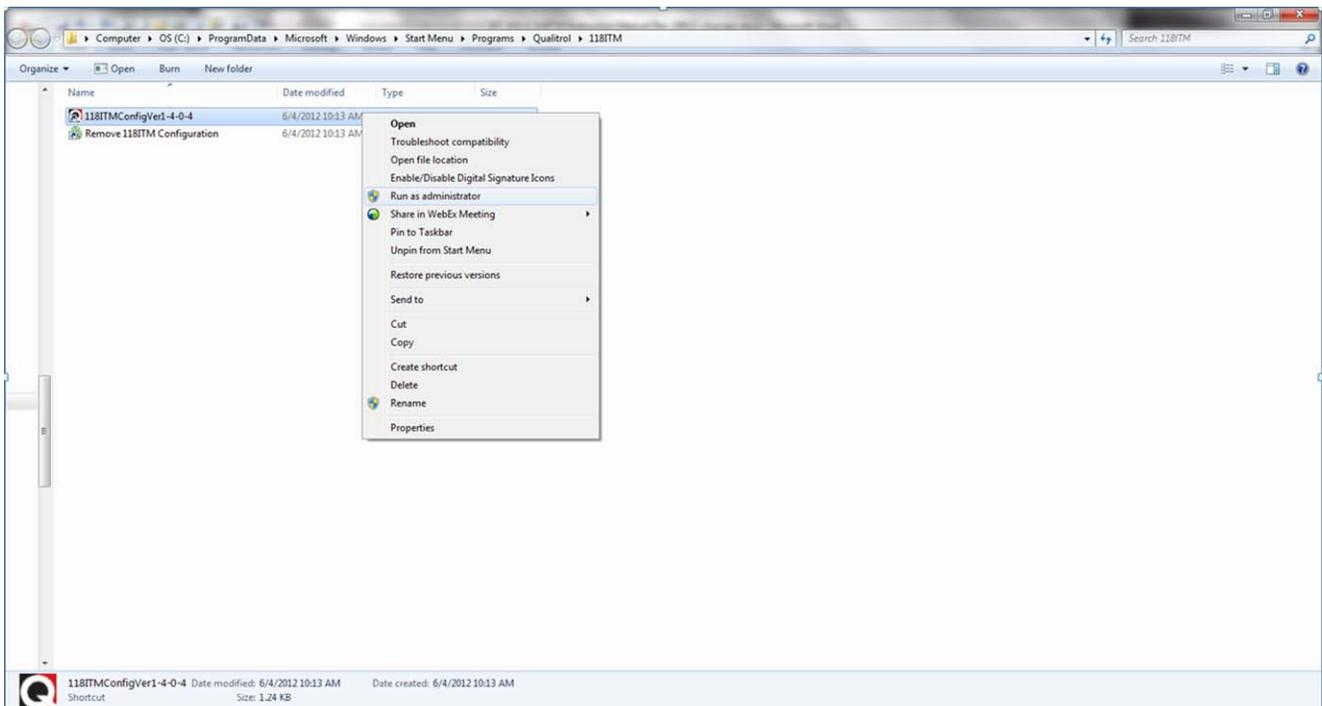

Figure 20 Run as Administration
- While placing the pointer over the 118ITM shortcut , right click and select “Run as administrator”, refer to figure 20 for illustration.